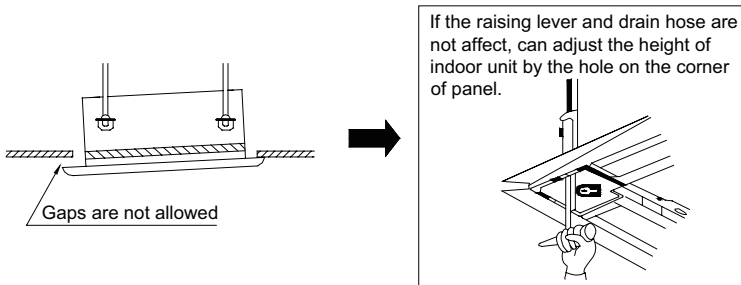

Fig.15
- ② . If gap still exist between ceiling and decoration panel after tightening the screws, readjust the height of the indoor unit. (As shown in Fig.15)